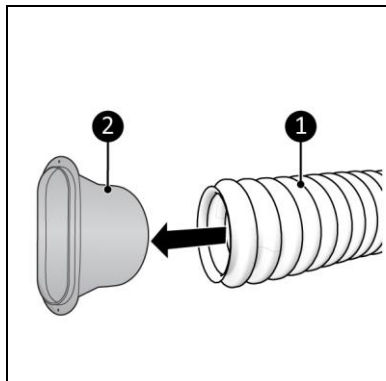

Figure 9
2. Connect the window kit connector (Figure 9, pos. 2) to the other end of the hot air outlet hose (Figure 9, pos. 1).